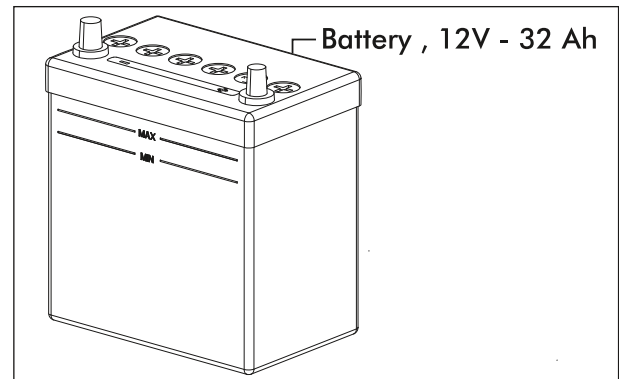

Fig. 6.59
**Caution:** Use only constant current battery charger of current output not more than 3.2A for 32 Ah batteries. (Fig. 6.59)